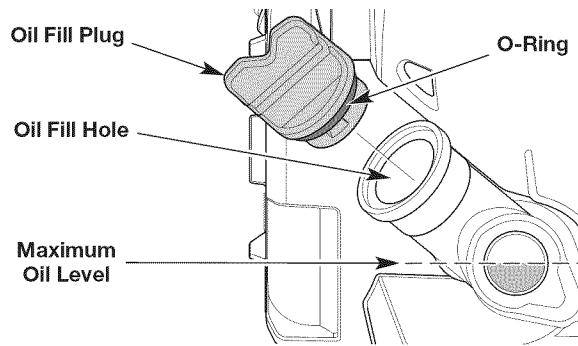

Fig. 19
3. Look into the oil level window; use a flashlight if necessary. **The oil level should fill the window approximately halfway** (Fig. 19). If the oil level is too low, add oil. Refer to *Adding Oil*.
1. Clean the area around the oil fill plug (Fig. 19) to prevent debris from entering the oil fill hole.
3. Add oil to the oil fill hole until the oil level is approximately halfway up the oil level window (Fig. 19).
NOTE: Make sure the O-ring is in place on the oil fill plug (Fig. 19).